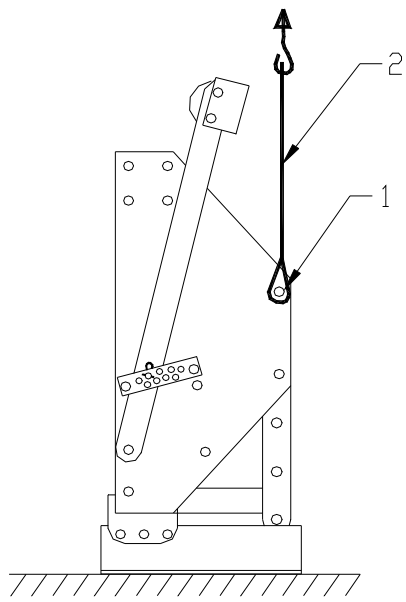

Fig. 1.
The machine is delivered on a pallet. To install the machine behind a tractor, handle as follows (see fig.1, 2, 3, 4, 5 and 6)
2. Firmly connect a sling 2 of approximately 2.5 mtr (8 ') with D- shackles to the holes 1 at each side of the machines as shown in Fig.1.
@ The position of the blades at the rotor and the position of the rotor in the main frame is critical for the final job done. So check this carefully with the figures 1 to 6 and Chapter 12.